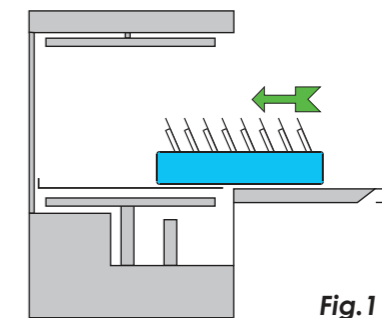

Fig.1
4. Slide the rack into the machine Fig.1 and close the door. Choose either short program, switch (6) pressed in, or long program switch (6) released.